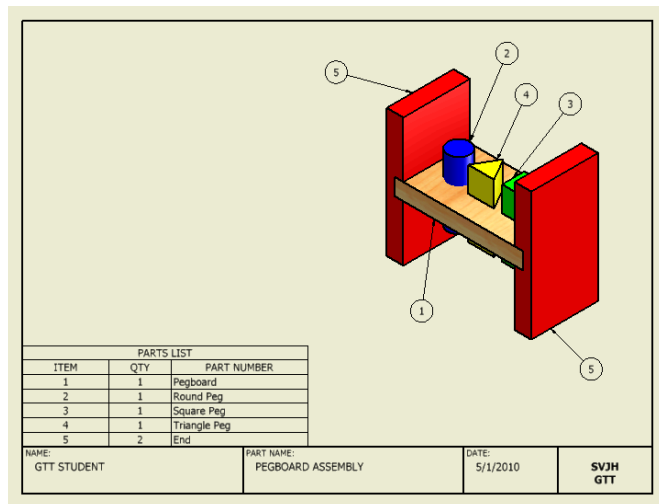

Figure 6
10. Continue placing balloons until all parts are labeled. Your drawing should look similar to Figure 6.